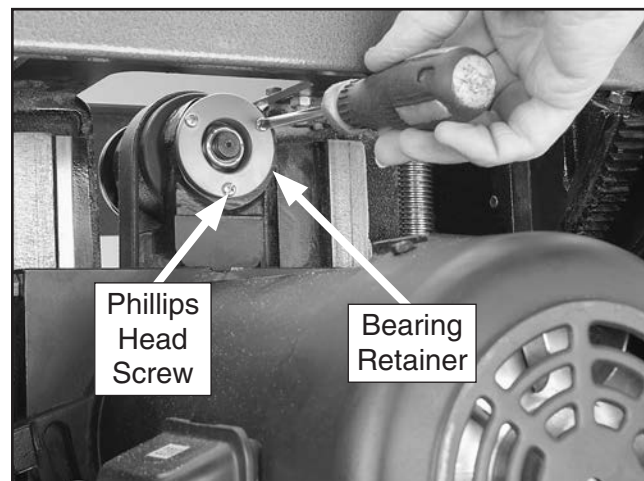

Figure 130. Removing bearing shield.
10. Remove the three Phillips head screws on the bearing retainer, shown in **Figure 130**, then remove the retainer.